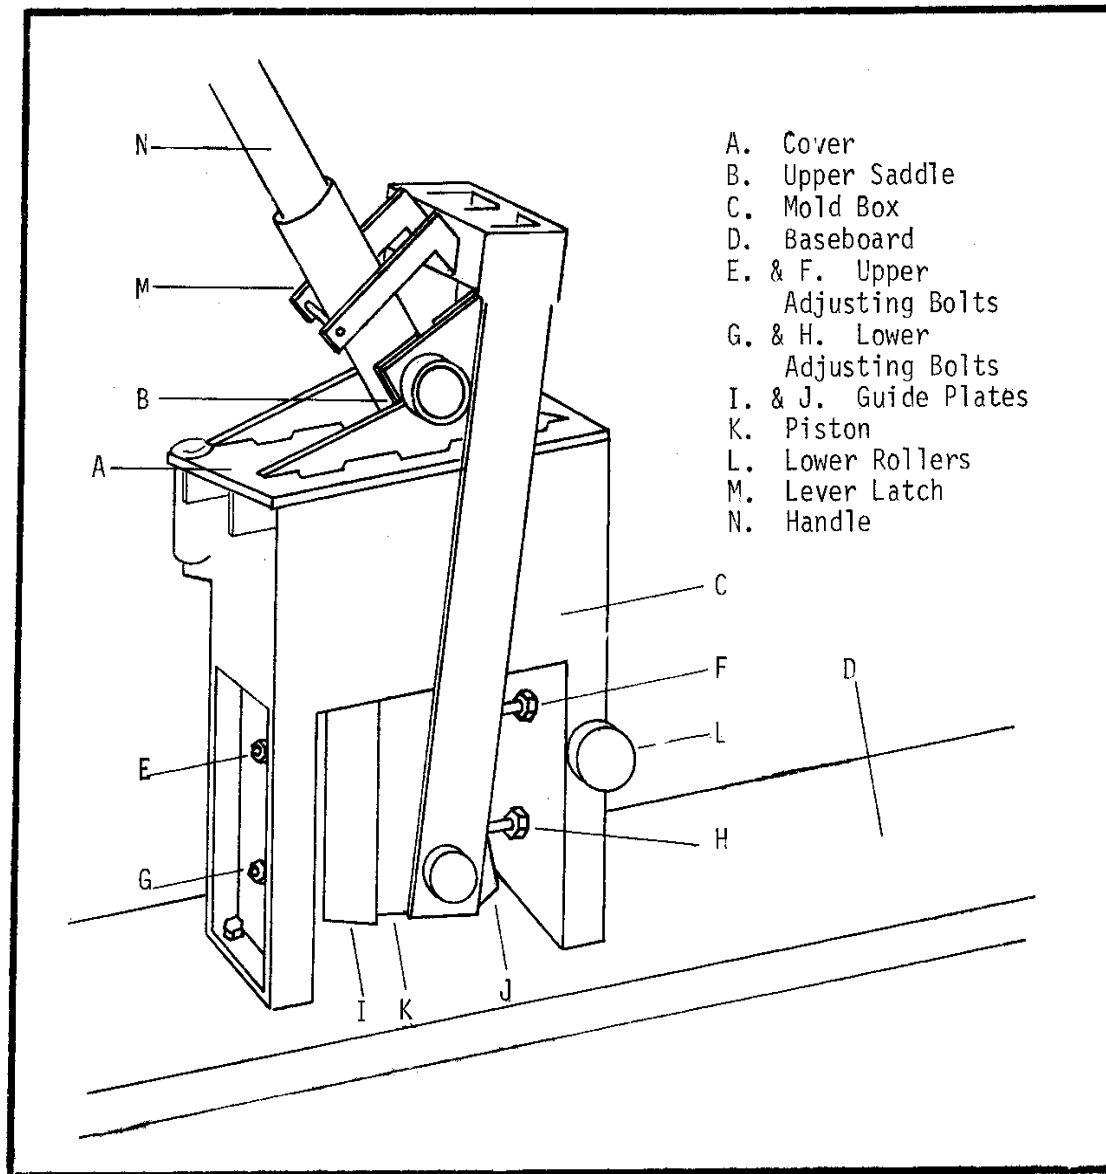

Fig. 1 - The CINVA-Ram Block Press and Its Parts
2. The Press The CINVA-Ram Block Press is a simple, low-cost portable machine for making building blocks and tiles from common soil (see Fig. 1). The press, made entirely of steel,